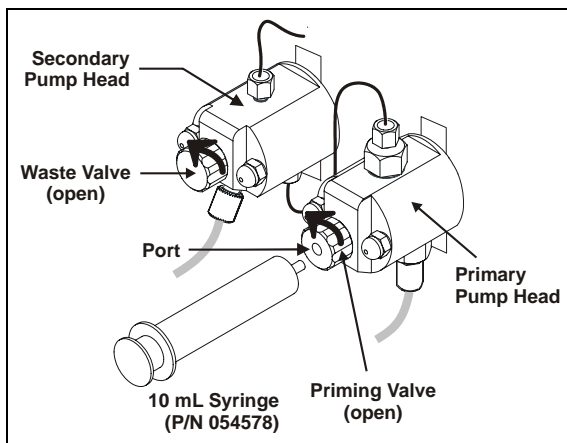

Figure 5-20. Priming the Pump Heads with IPA
1. Connect a 10-mL syringe (P/N 054578) filled with isopropyl alcohol (IPA) to the port in the primary pump head (see Figure 5-20).
2. Open the waste valve on the secondary pump head (see Figure 5-20) by turning the knob one-quarter to one-half turn counterclockwise.